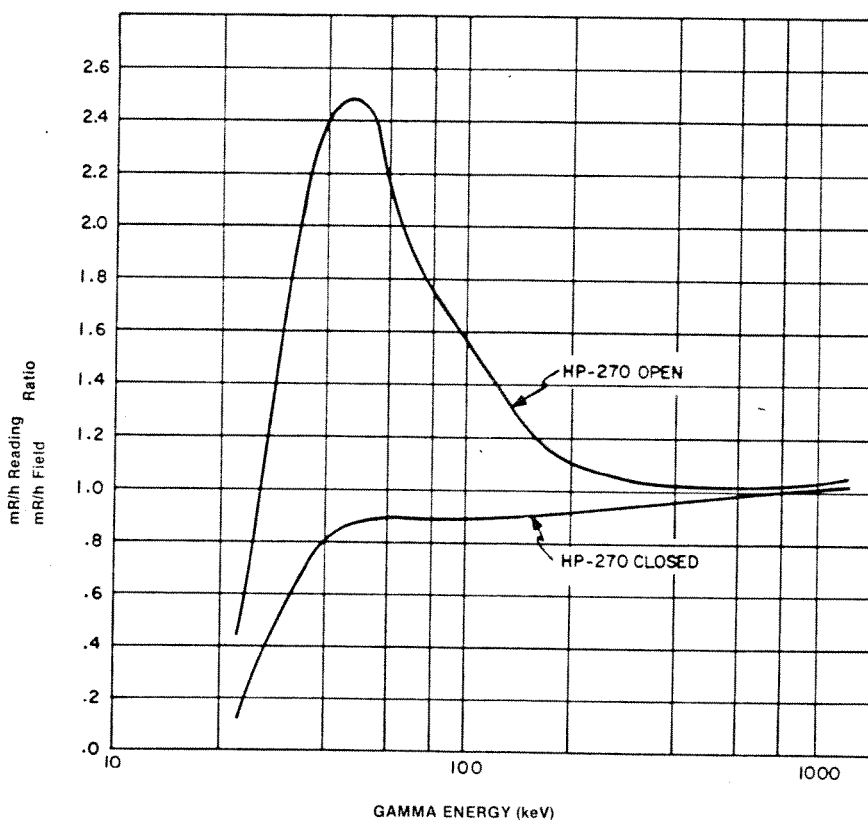

Figure 1-2. Typical Energy Response of HP-270
e. Energy Response: See Figure 1-2.